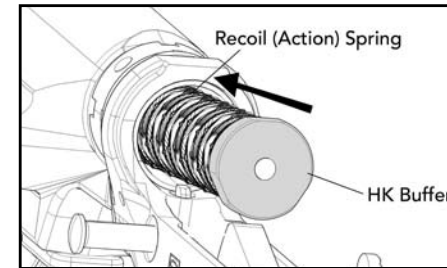

Fig. 39 – Installing the buffer and action spring
- Ensure that the hammer is in the down (cocked) position before attempting to install the buffer and action spring. Mount the action spring onto the buffer and insert the buffer and spring into the receiver extension. Push back on the buffer far enough until the buffer is retained by the spring loaded buffer detent (Fig. 39).